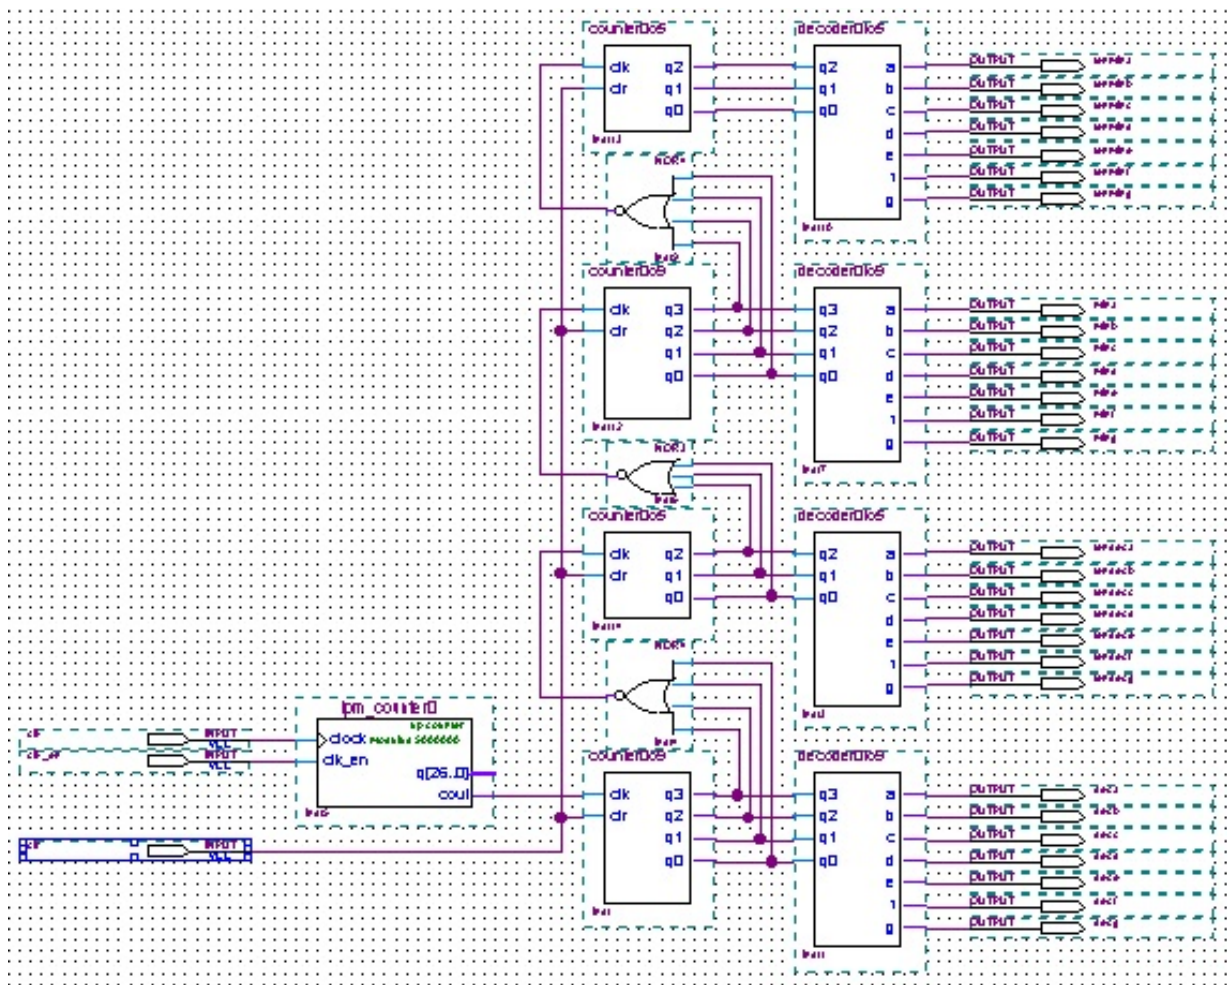

Figure 7.15 Complete stopwatch circuit
7. Complete the *stopwatch* circuit as shown in Figure 7.15. Click **File > Save**.